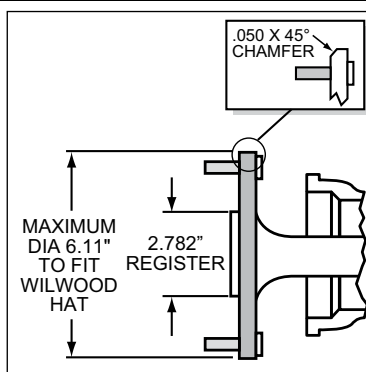

Figure 3. Axle Flange Maximum Dimension
- Axle center register diameter is 2.80", Figure 3. This kit uses Wilwood's removable center register adapters. Rotors can either be centered on the axle register, i.e. *register-centric* or centered on the wheel studs, i.e. *stud-centric*. Due to variations in wheel stud final diameters, *register-centric* centering can be a more accurate method of centering the rotor to the axle. Wilwood offers various diameter adapters for purchase in addition to the ones supplied in this kit, see Table 1.
- Maximum axle flange diameter must be no larger than 6.11" w/.050" x 45° chamfer (see Figure 3).